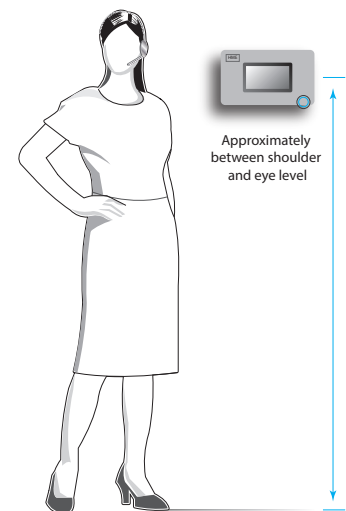

Fig. 2.1
2. Mount the Base Station at an optimal height from the floor with the touchscreen visible and within easy reach to comfortably operate with fingers. The mounting height should be between shoulder and eye level for someone of average height (see Fig. 2.1).